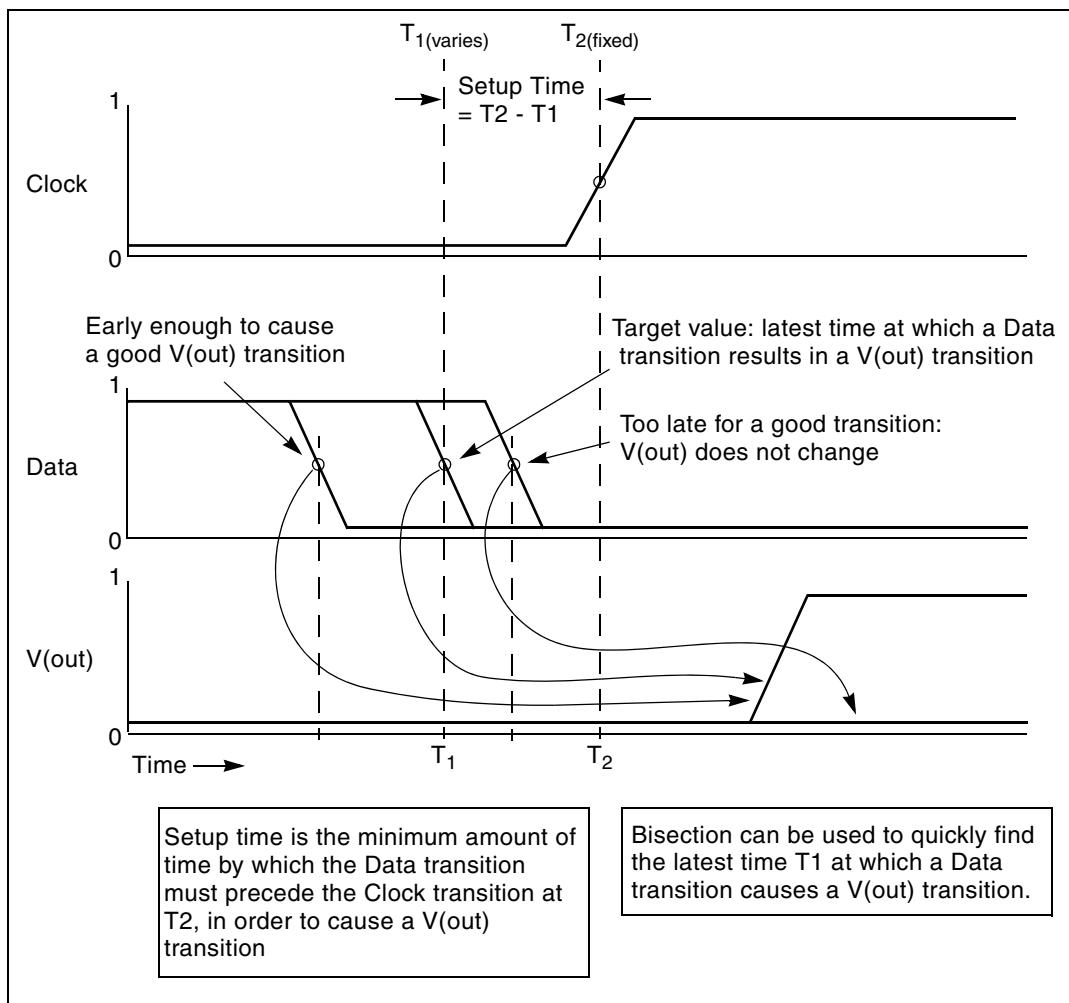

Figure 179 Determining Setup Time with Bisection Violation Analysis
Figure 179 on page 901 shows a typical analysis of setup-time constraints. Clock and data input waveforms drive a cell. Two input transitions (rise and fall) occur at times T_1 and T_2 . The result is an output transition, when $V(\text{out})$ changes from low to high. The following relationship between the $T_1(\text{data})$ and $T_2(\text{clock})$ times must be true for the $V(\text{out})$ transition to occur: $T_2 > (T_1 + \text{setup time})$.
- Automatically varying the input parameter (T_1 in Figure 179 on page 901) to find the value for which the transition barely occurs.
Figure 180 on page 908 shows an example of the binary search process that the bisection algorithm uses. This example is the pass/fail type, and is appropriate for a setup-time analysis that tests for the presence of an output transition. In the example depicted in Figure 179 on page 901 note that:
4. The bisection algorithm performs tests for each specified boundary value to determine the direction in which to pursue the target value, after the first bisection. In this example shown in Figure 179 on page 901, the upper boundary has a pass value and the lower boundary has a fail value.